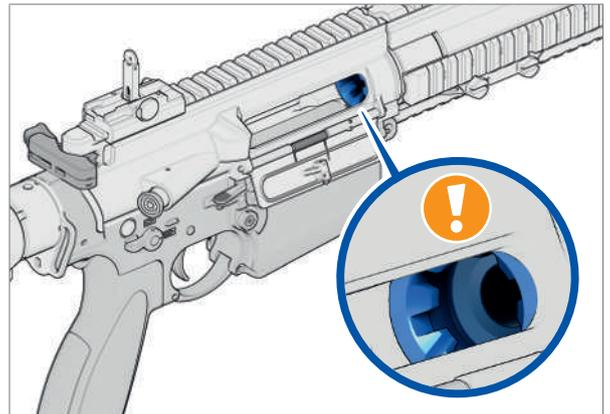

Fig. 16: Look into the chamber
4. Look into the chamber (*Fig. 16*). There must not be a cartridge in the chamber. If there is a cartridge in the chamber, then a fault is present. ▶ Faults: Causes and remedies.